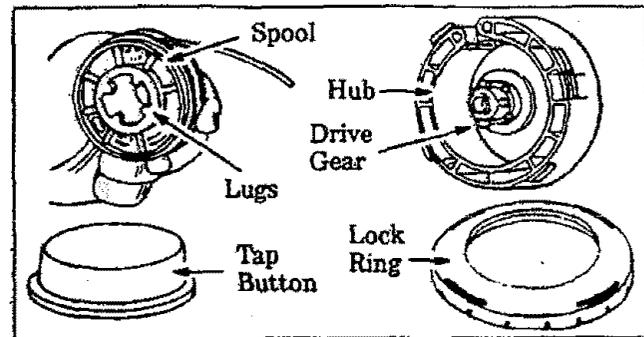

Figure 12
- c. Remove the Lock Ring, Tap Button, and Spool. Figure 12.
- g. Set the spool into the Hub. Press the spool down; turn and lock the spool lugs under the drive gear. Figures 12 & 13.